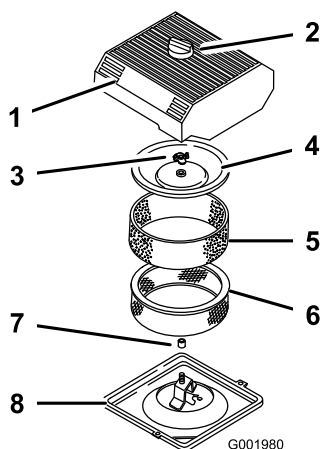

Figure 44
3. Clean around the air cleaner to prevent dirt from getting into the engine and causing damage (Figure 44).
4. Loosen the knob on the air cleaner cover and remove the cover (Figure 44).
5. Carefully slide the foam element off the paper element (Figure 44).
6. Unscrew the cover nut and remove the cover and paper element (Figure 44).
1. Carefully slide the foam element onto the paper air cleaner element (Figure 44).
3. Install the cover nut finger-tight against the cover (Figure 44).
4. Install the air cleaner cover and knob (Figure 44).